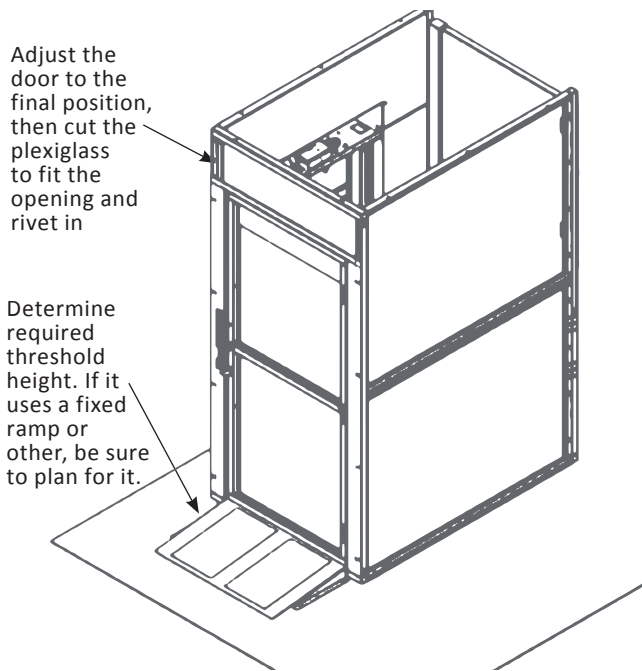

Figure 4-13
- Use the provided plexiglass above the door. Install the acrylic with the angles and flats provided, which rivet in. *See Figure 4-13.*